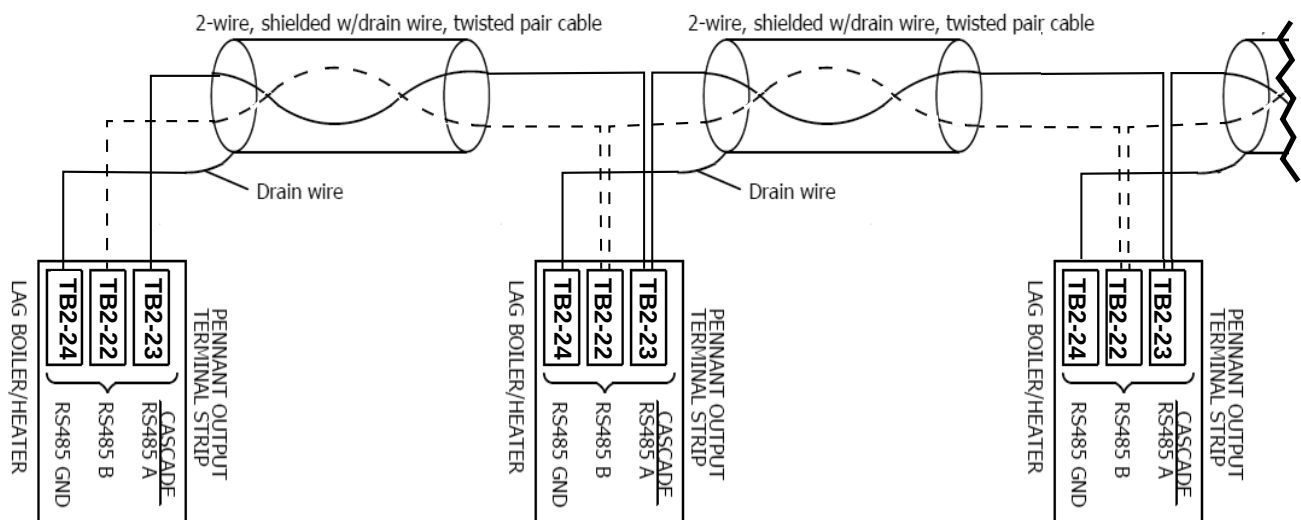

Figure 21. Cascade Wiring Connections
Communication between lead and lag units is accomplished using RS485. When wiring Pennant units for cascade operations, use terminals 23 (A), 22 (B), and 24 (GND) of the output terminal strip. Use 2-wire twisted pair, shielded w/drain, communication cable between units. Referring to Figure 21, connect one end of the twisted pair wires to A (terminal 23), and the other to terminal B (terminal 22), and the drain wire to GND (terminal 24). Connect the other end of the cable to the next Pennant, matching the termination wiring on the previous unit, except for GND. Only connect the drain wire to ground on one end of the cable to avoid ground loop issues. If more than two Pennant units are cascaded together, daisy chain the wiring from Pennant to Pennant, keeping the cables as short as possible.